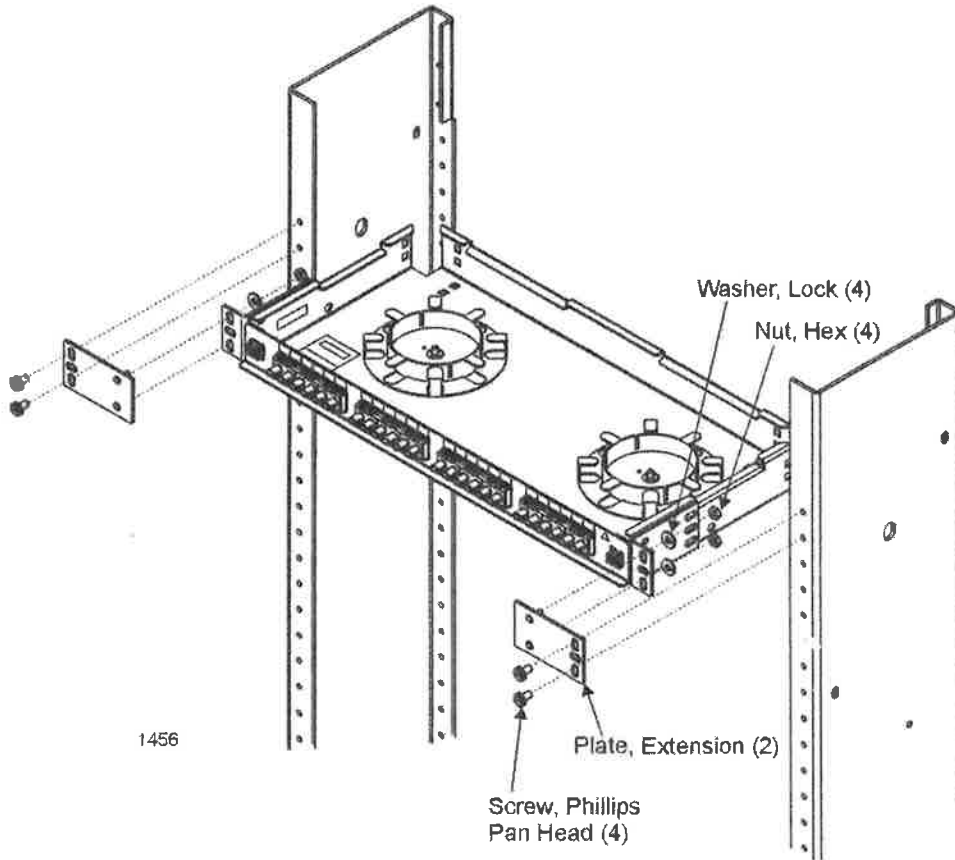
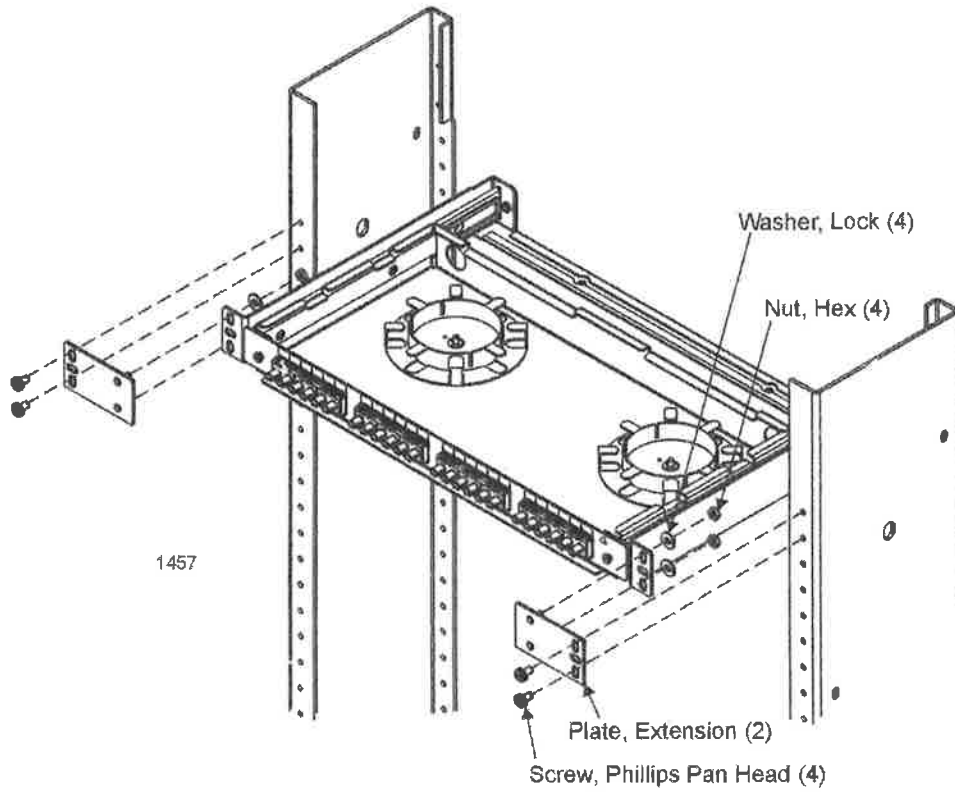

Figure 1. 600A EW LIU Installation
Figure 2. 600B EW LIU Installation
The following items are provided with the Kit, see Figure 1
1. Attach both extension plates to the mounting brackets of the unit as shown in Figure 1 for the 600A EW LIU and Figure 2 for the 600B EW LIU.